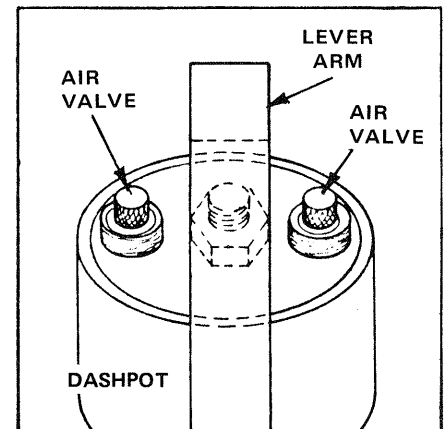

FIGURE 9-33 Dashpot Air Valves.
- Q. Move the Vorsetzer away from the piano. Check the tightness of the Air Valves on the top of the Dashpot (see FIGURE 9-33). If they are finger tight, proceed to Point R below. If they are loose, turn each one 1/4 turn CLOCKWISE (this increases the internal resistance of the Dashpot and decreases the speed of the Solenoid). Proceed to Point R.
- R. Move the unit back to the piano and connect it to the piano (see CAUTION below). Plug the Power Cord into the Circuit Interrupter and turn the Interlock and ① POWER Switches ON. Play Program 9 and check the operation of the Solenoid. If the Solenoid functions properly, proceed to Point X on page 141. If the Solenoid does not work correctly, try repeating Points Q and R or, if that does not work, proceed to POINT S below.